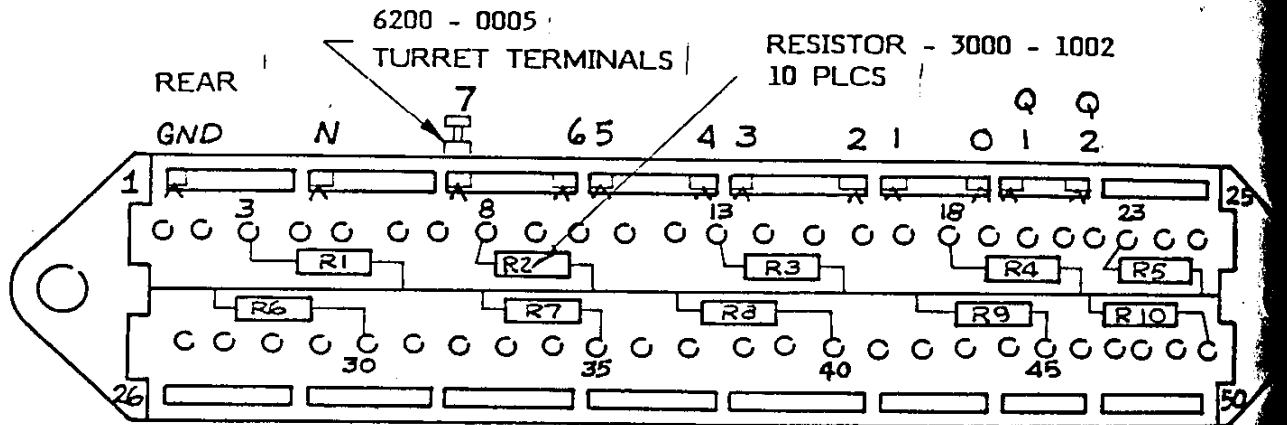

Figure 5.26-Alignment Housing B Resistor Placement
4. Solder resistors to common bus wire as shown in Figure 5.26